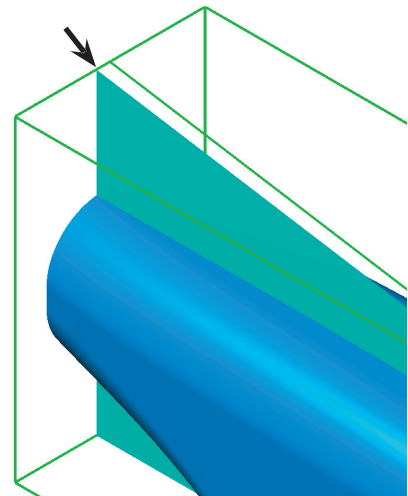

Fig. 44
Step 4. Click OK  to close the Translate dialog box, **Fig. 44**.